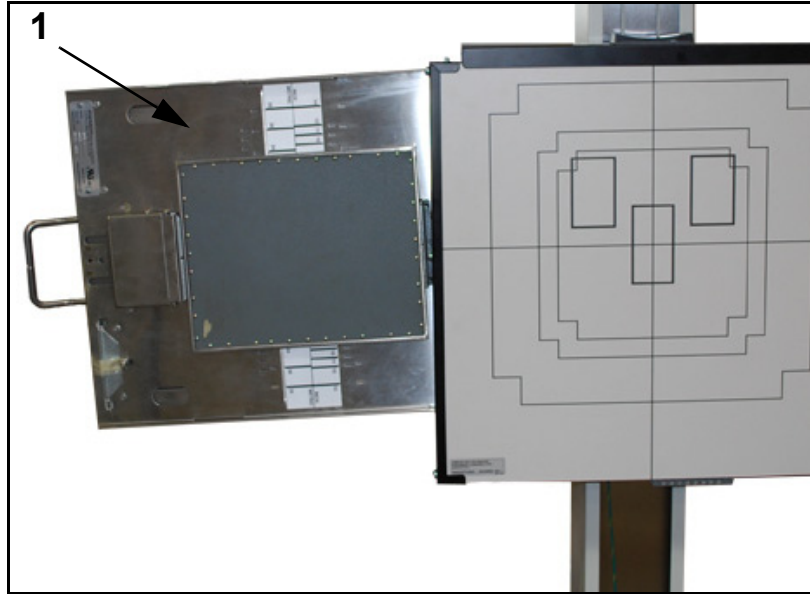

Figure 3-3. Cassette Tray
- 1 Manually pull cassette tray (1 in Figure 3-3) out as far as it will go.